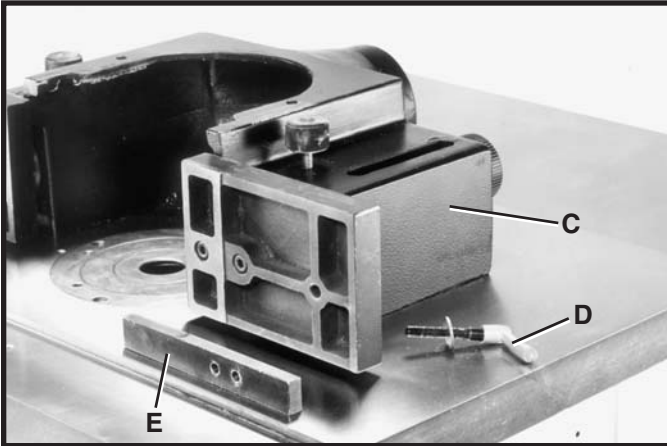

Fig. 15
2. Place fence body (C) Fig. 15, on the table as shown, and locate the two fence locking levers with washers (D) and fence lock bars (E).